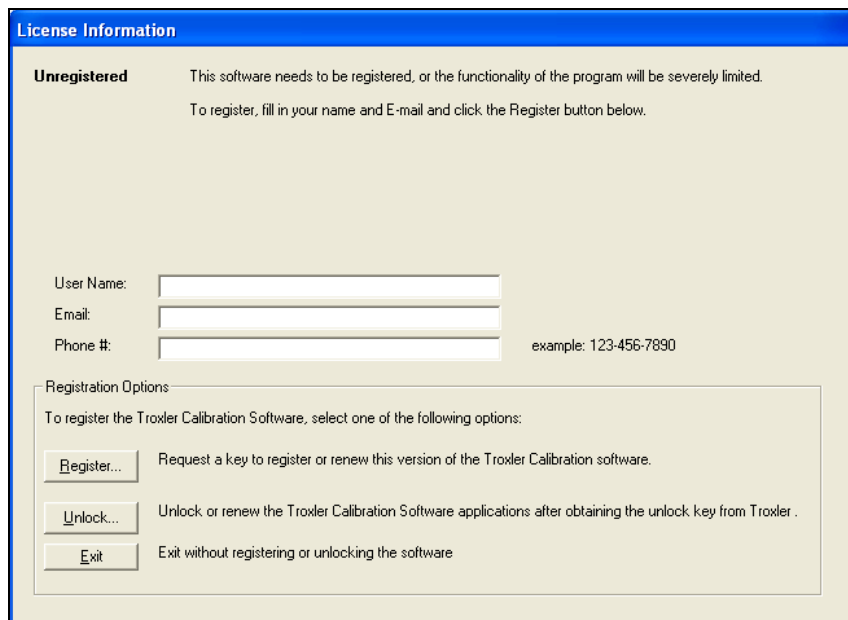

Figure 3. License Information Main Menu
- 1.3 After the software has been loaded, the **License Information** main menu shown in Figure 3 is displayed.
- 1.7 Repeat steps 1.1 and 1.2 on page 5 to display the **License Information** main menu (see Figure 3).